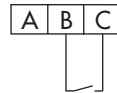

Fig. 15: Electrical connections
3. Connect wires to the terminals as shown in the wiring diagram to the enclosure terminals (see Fig. 15 on page 56).